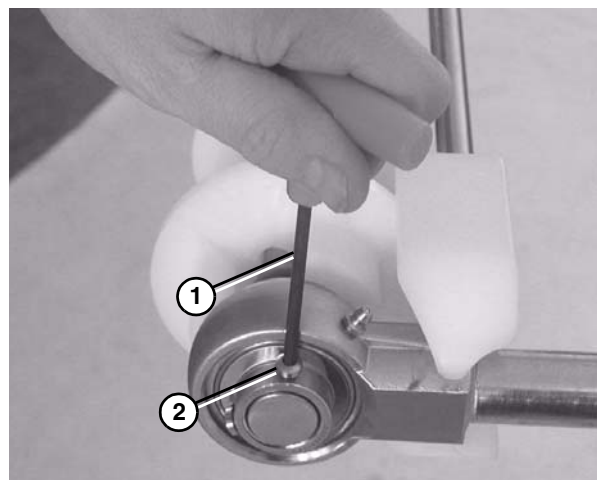

Figure 81
5. Use a hex wrench (Figure 81, item 1) to tighten the bearing shaft fasteners (Figure 81, item 2) to 6 N•m (54 in•lbs). Check after 24 hours of conveyor use.